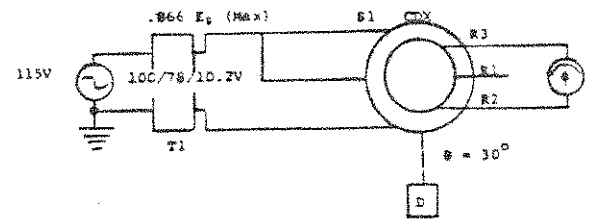

Figure 7-10. Phase Shift Test (CDX)
- a. Set up equipment as shown in figure 7-10.